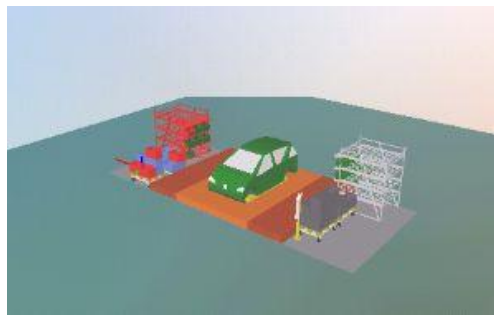

Figure 80: Selection of Objects: Selection Color: Red
- 1) Select the number of objects you want to include in a graphic group. Please refer to the Figure 80.